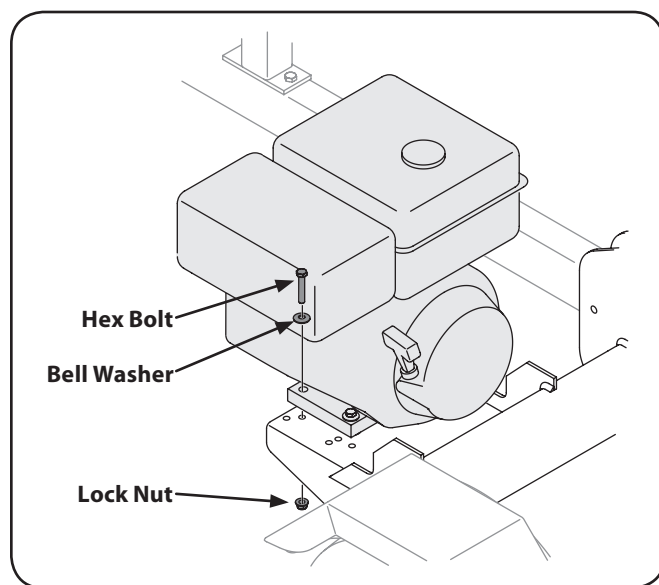

Figure 3-7
4. Secure the engine and pump assembly with the four hex bolts, bell washers and lock nuts removed earlier. Using a torque wrench, tighten to 14 ft-lbs. See Fig. 3-7.